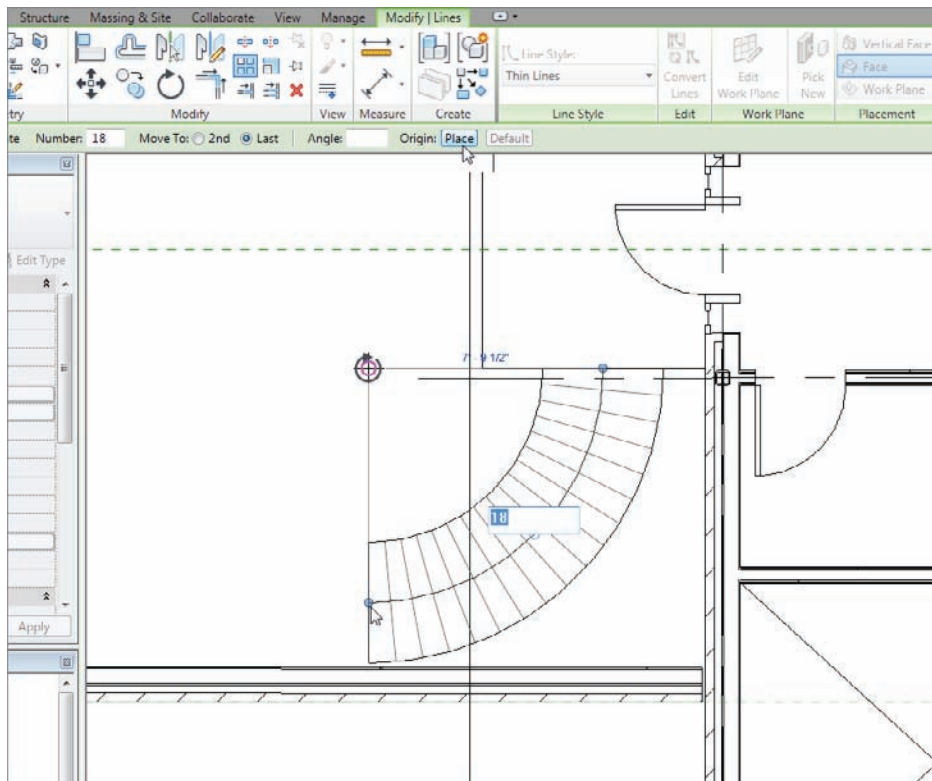

FIGURE 10.41 Arraying the line to create your own treads
5. Select the line at the left end of the arcs, as shown in Figure 10.41.
11. When these options are set, click the Place button next to the Origin category on the Options bar (see Figure 10.41).